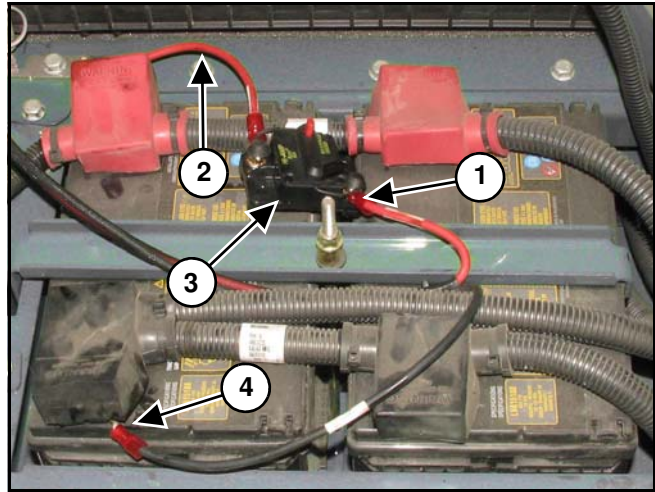

Figure 17
[Figure 17] - Connect the power harness red (+) wire (1) to the circuit breaker. Then connect the red wire (2) to the circuit breaker (3) and battery (+) positive terminal.